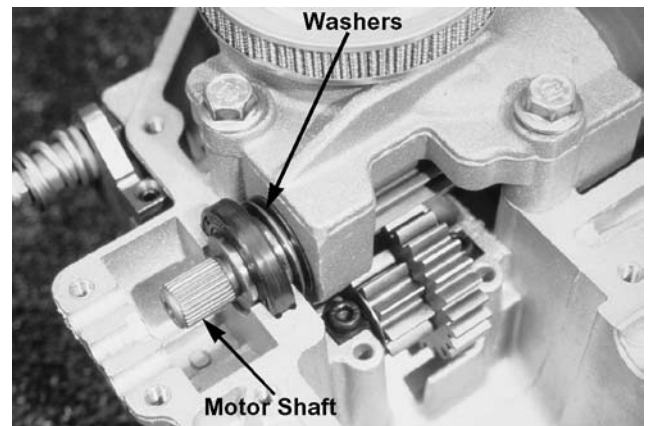

Figure 6-137
15. Insure the two washers on the motor shaft are in the correct position. (Located between the upper housing and the center section.) See Figure 6-137.